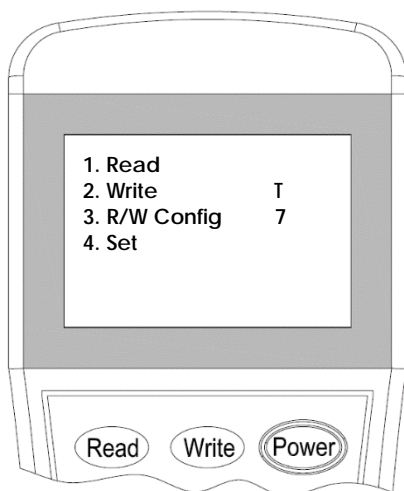

Figure 14
2. Switch-on the programmer, then press button **"4"** to enter to **Setting** mode (Figure 14). The programmer will display the actual configuration after few seconds.